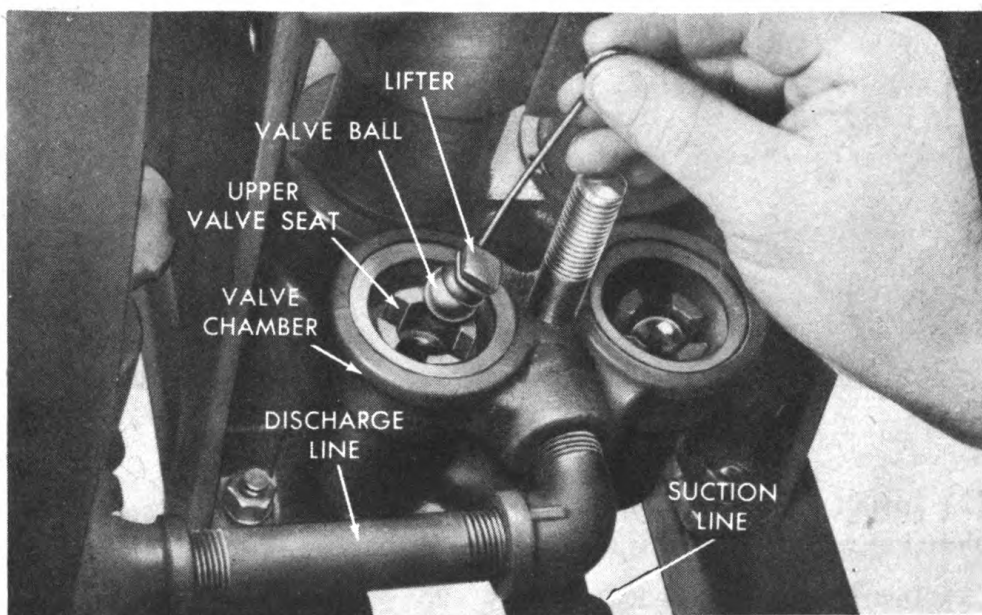

Figure 39—Removing Upper Valve Ball
- (2) Using vacuum cup valve ball lifter, remove upper (discharge) valve balls (figure 39).
- (3) Lift out upper (discharge) valve seats and gaskets.
- (4) Using vacuum cup valve ball lifter, remove lower (intake) valve balls.